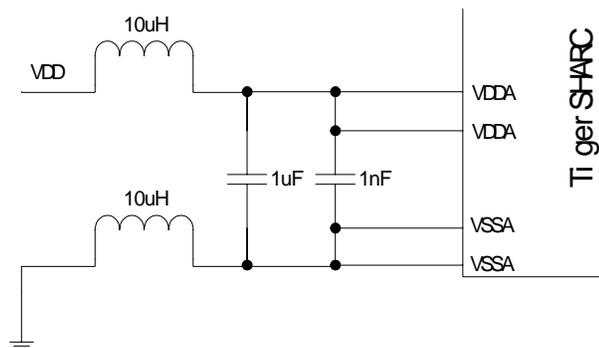

Figure 4. Analog power supply filtering circuit reference design
1. Note that the analog supply (VDD_A) provides power to the clock generator PLLs. To produce a stable clock, systems must provide a clean power supply to power input VDD_A. Designers must pay critical attention to bypassing the VDD_A supply. Figure 4 is a reference design of the filtering circuit. Place components as close as possible to the device.